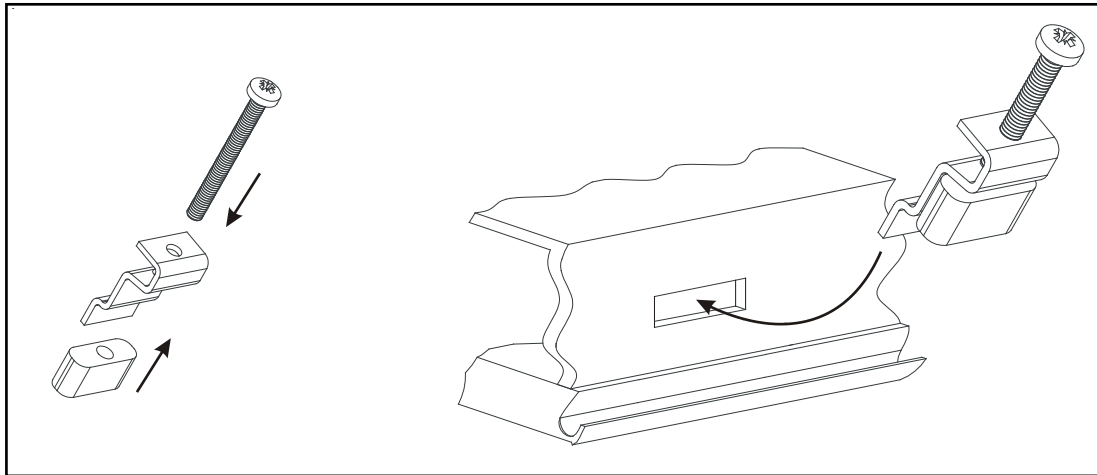

Fig. 4.2
Place the fixing brackets as shown in figure **(Fig. 4.2)**.
6. USB Port (**Fig. 4.2**)